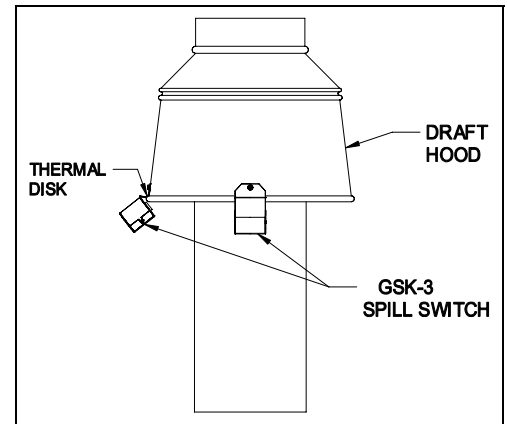

Figure 7
1. Mount the GSK-3 on the lower edge of the draft hood with the exposed thermal disk directed into the draft hood (See Figure 7)